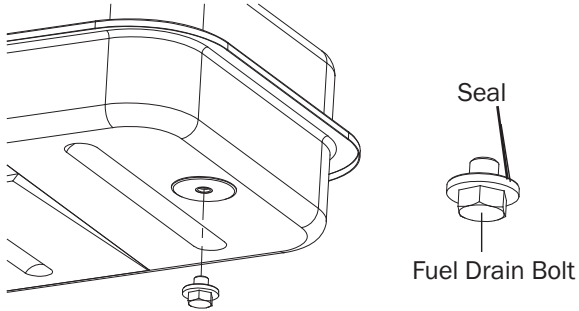

Figure 8 – Drain Plug Removal
1. Remove drain bolt from bottom of fuel tank. See Figure 8.